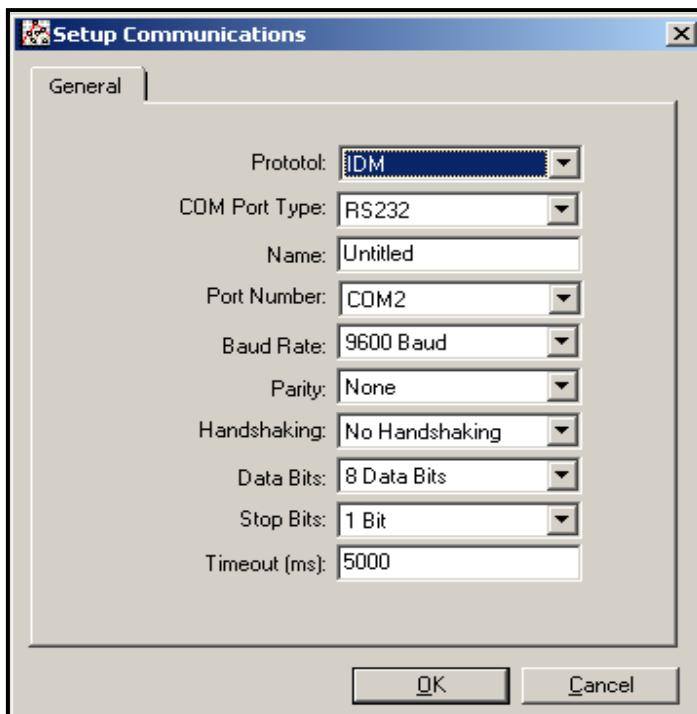

Figure 19: Setup Communications Screen
4. Click on the “Communications Port” option to select it. The Setup Communications screen appears similar to Figure 19.